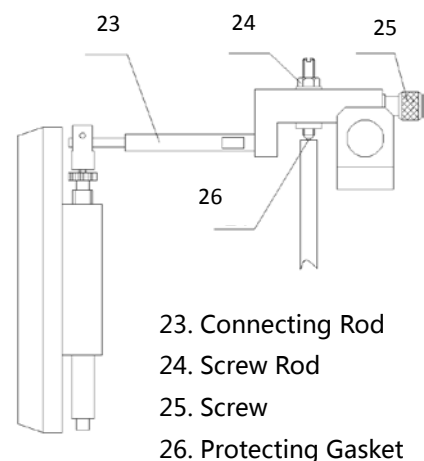

Fig 5
After the hardness tester is properly placed, open the Upper Cover (12) and the Back Cover (11). Untie the fastening rubber tape on the Connecting Rod (25)( Fig.5), and draw out the foam block under the Protecting Gasket(26) and Lever(16). Untie all the white gauzes bands on moving parts and then recover the Upper Cover and Backer Cover to keep away dust.
### 5.3 The Regulation of Displayed Hardness Value (Fig.5)